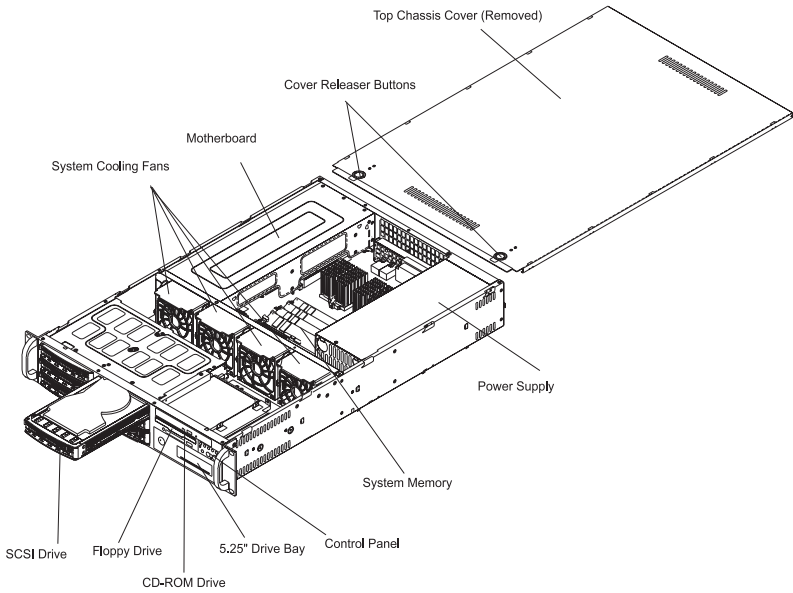

Figure 2-5. Accessing the Inside of the SuperServer 6021H (with one SCSI Drive removed)
1. Accessing the inside of the 6021H (see Figure 2-5):